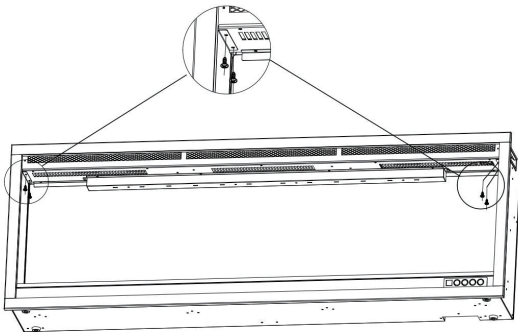

Fig. 2-1
1. Remove four screws (two on each side) from the two sides of the fireplace. **Fig.2-1**